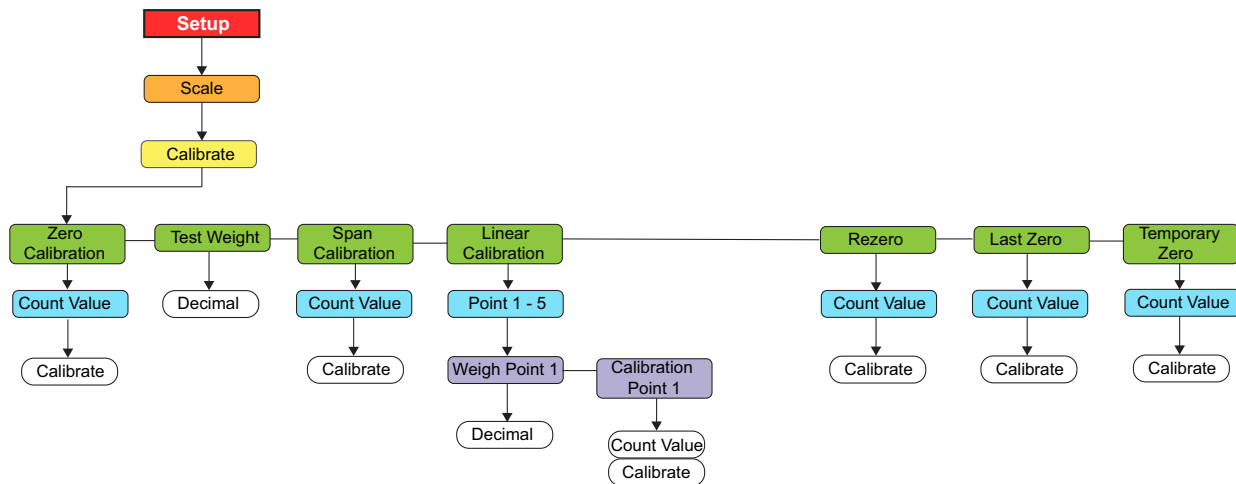

Figure 4-1. Calibration Menu
- Put the indicator in setup mode (Figure 3-1 on page 29) (or use  if audit trail is enabled), and navigate to **Calibrate** (Figure 4-1 on page 52).